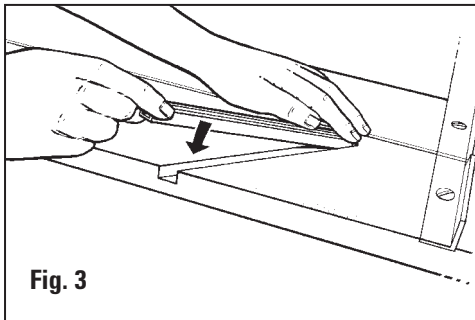

Fig. 3
1. Press each aluminum mat guide channel into board slots with rounded end towards the Guide Rail. Insert the four small guide rail channel screws from the **UNDERSIDE** of the board and tighten. **Fig. 3**
4. Place the mat color side down under the Guide Rail, against the Mat Guide and down against the Squaring Arm. **Fig. 3**
4. Using a pencil, mark a line along the full length of the mat board using the guide rail as a guide. **Fig. 3**. Turn the mat 1/4 turn to the right before cutting.
3. Using a pencil, mark a line along the full length of the mat board using the guide rail as a guide. **Fig. 3.** Turn the mat 1/4 turn to the right before cutting.
5. Pull the Straight Cutting Head until the bottom scribe line lines up with the bottom border line. Repeat until all borders are cut. **Fig. 3**